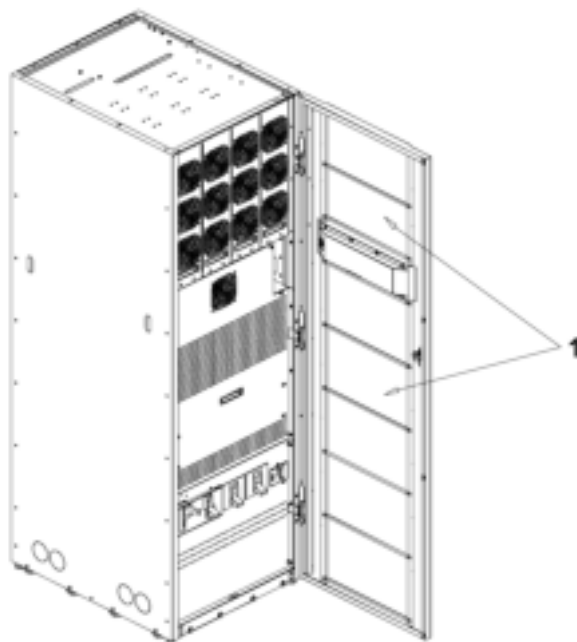

Figure 41. Air filter location
2. Check the UPS air filters (located behind the front door) and wash or replace as necessary. See Figure 41 for filter location. Contact an Eaton service representative for replacement filters. To remove the filters: